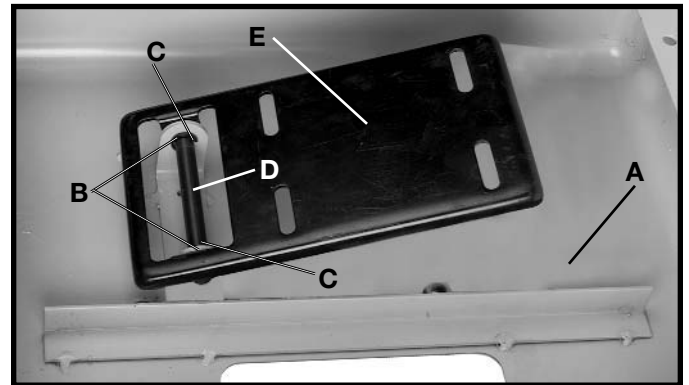

Fig. 5
1. Place the stand top (A) Fig. 5, on a flat surface as shown.
2. Align the two holes in the motor mounting plate (E) Fig. 5, with the two holes (B) in the stand top (A).
3. Insert shaft (D) through the holes in the motor mounting plate and the holes in the stand top.
4. Attach the two “C” rings (C) Fig. 5 to the shaft.